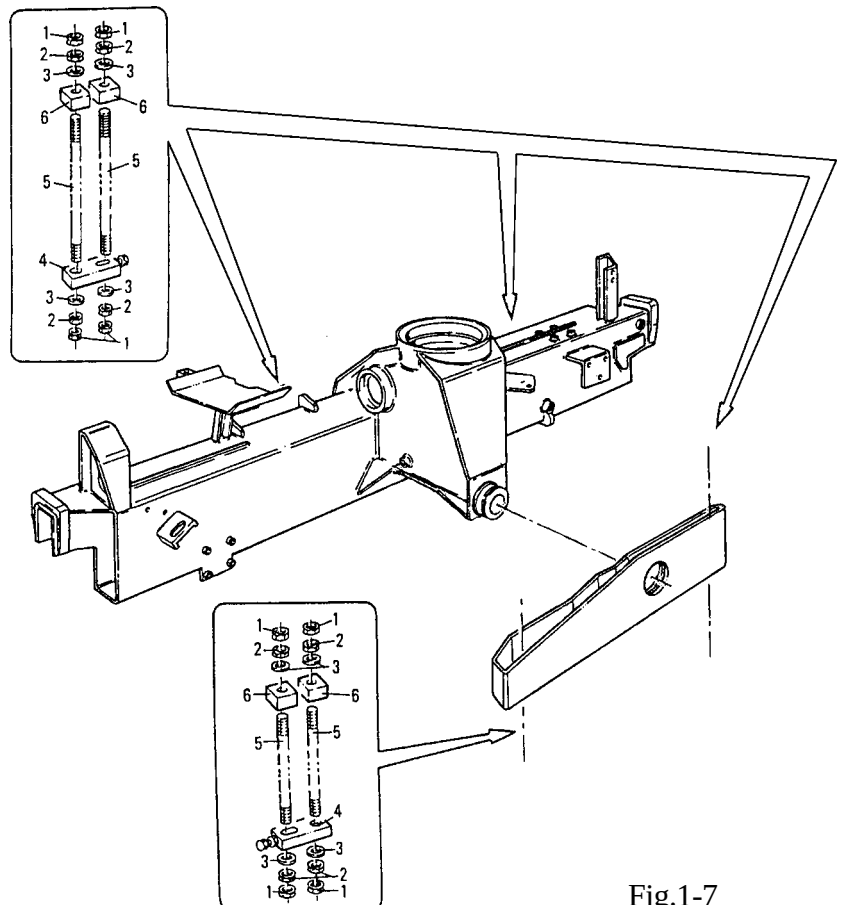

Fig.1-7
1.7 ANCORAGGIO (Fig. 1-7)
1.7 ANCHORAGE (fig. 1-7)